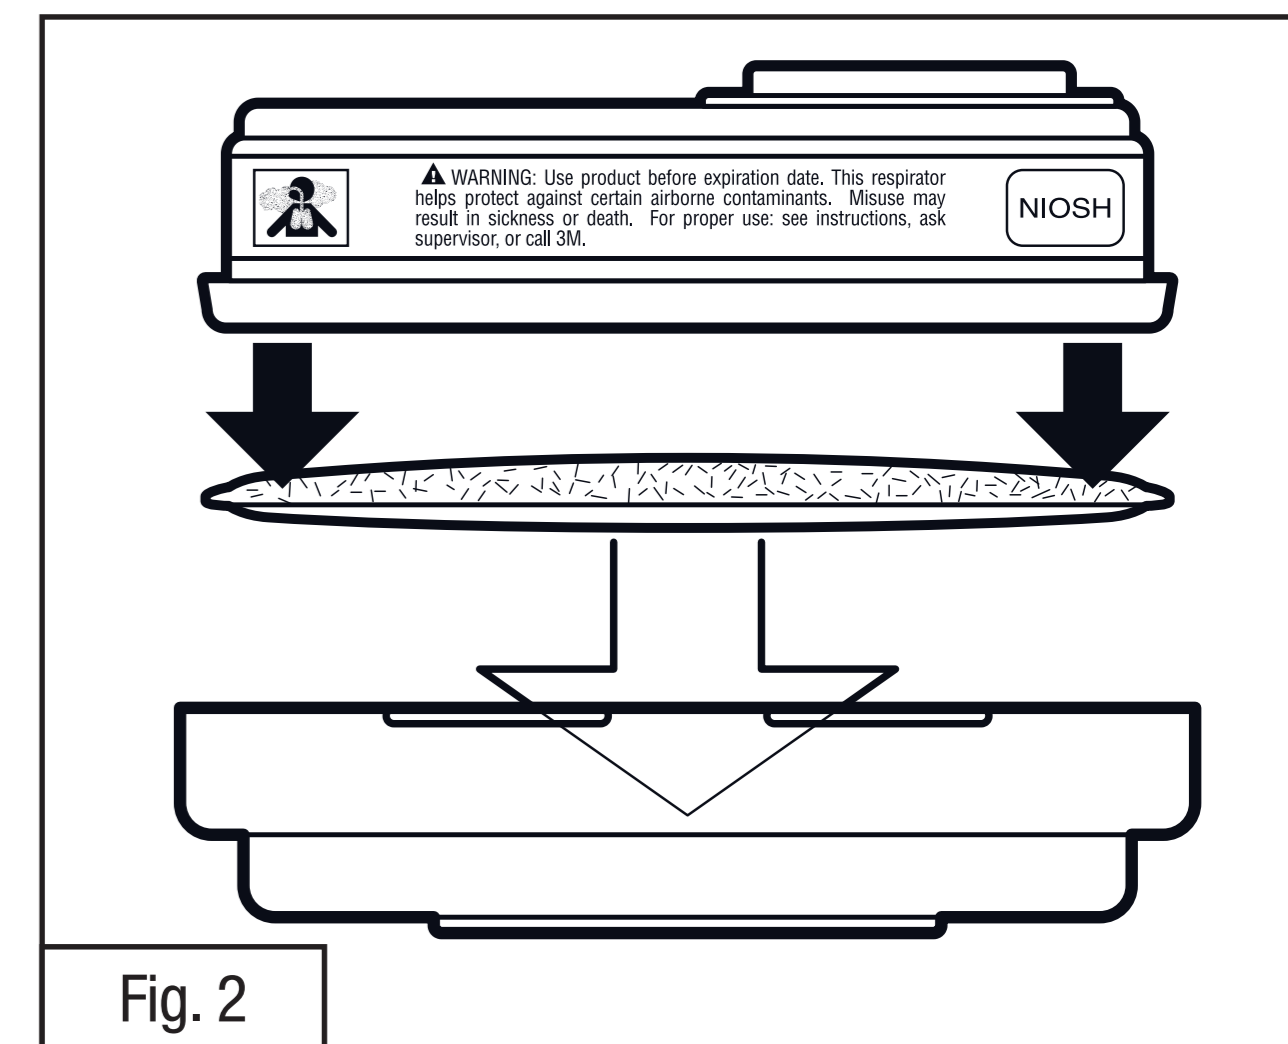

Fig. 2
2. Press cartridge into 501 (07054) filter retainer. Filter retainer should attach securely to the cartridge. The 5P71 (07194) filter **must** completely cover the face of the cartridge (Fig. 2). Printing on the filter is not visible if the filter is properly oriented.